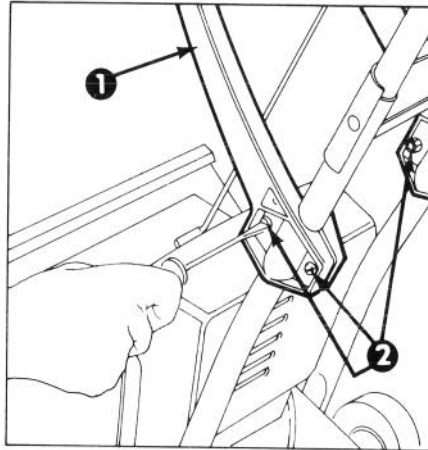

Figure 4
2. If handle location is not comfortable, loosen clamping screw on both sides with phillips head screwdriver, move middle handle to desired position and tighten screws to secure handle (Fig. 4).